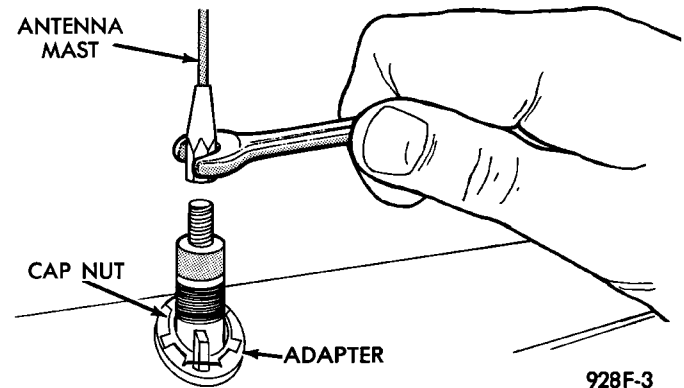

Fig. 17 Antenna Mast Remove/Install - Typical
- (1) Disconnect and isolate the battery negative cable.
- (2) Remove the right front fender inner liner. Refer to Front Fender in Group 23 - Body for the procedures.
- (3) Unscrew the antenna mast from the antenna body (Fig. 17).